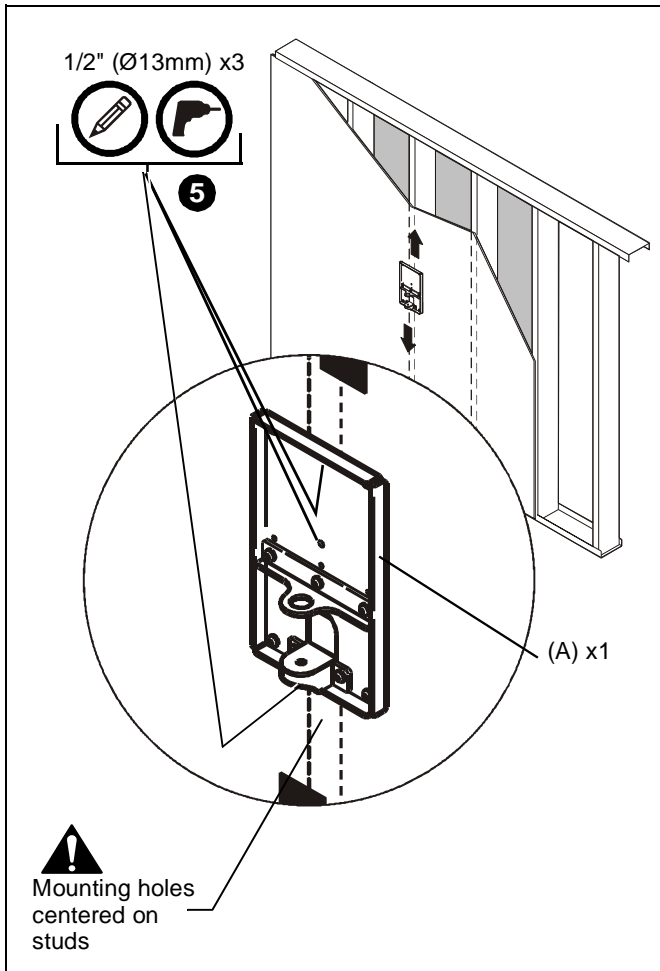

Figure 4
4. Mark location of three mounting holes on wall. (See Figure 4)
5. Drill three 1/2" (Ø13mm) holes. (See Figure 4)